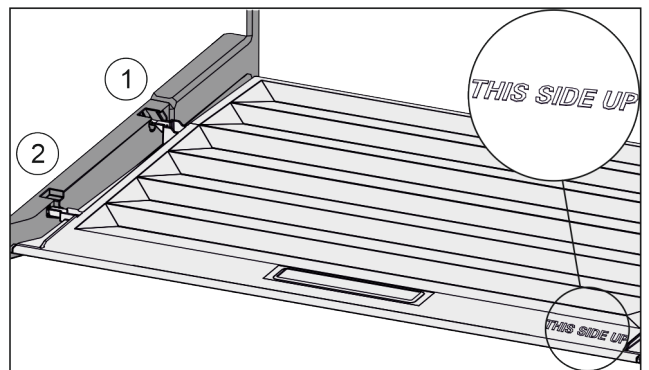

Fig. 99
- ▶ Insert the lip of the cover over the opening of the rear bracket Fig. 99 (1) and click into place Fig. 99 (2).